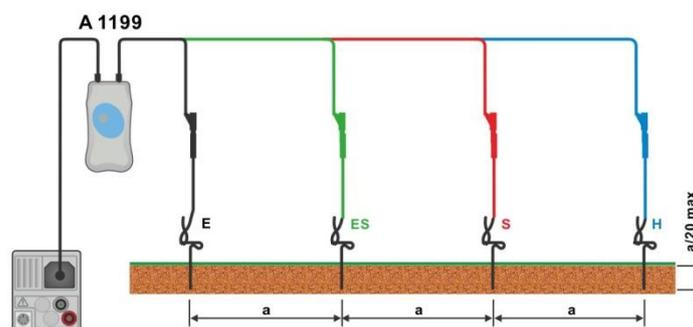

Figure 7.67: Specific earth resistance measurement
- › Connect test leads to earth probes, see **Figure 7.67**.